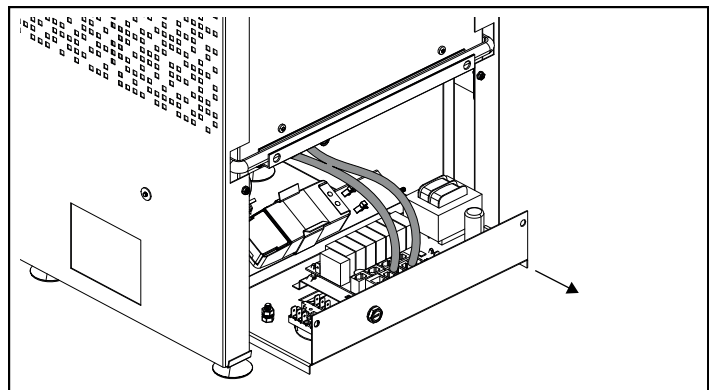
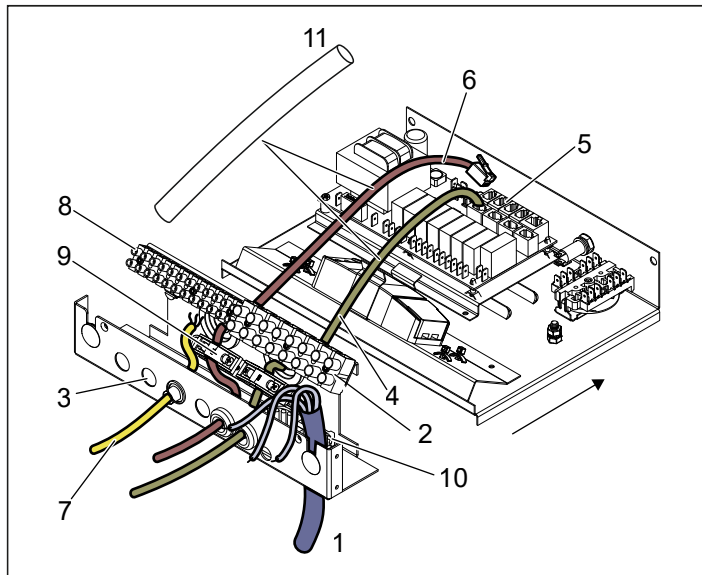
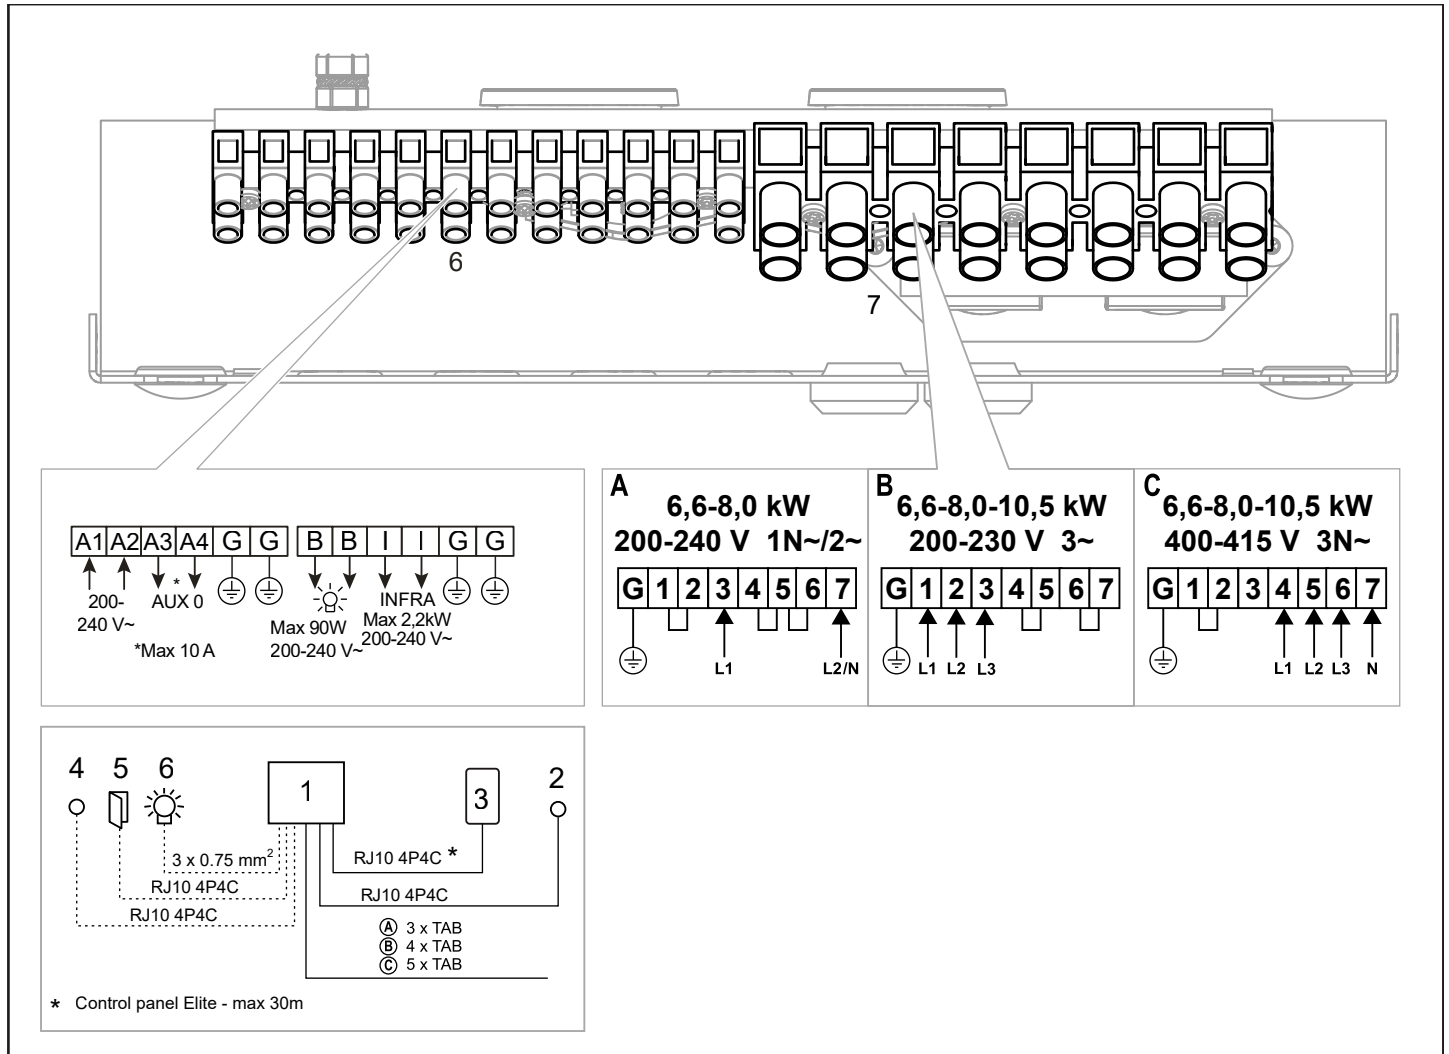
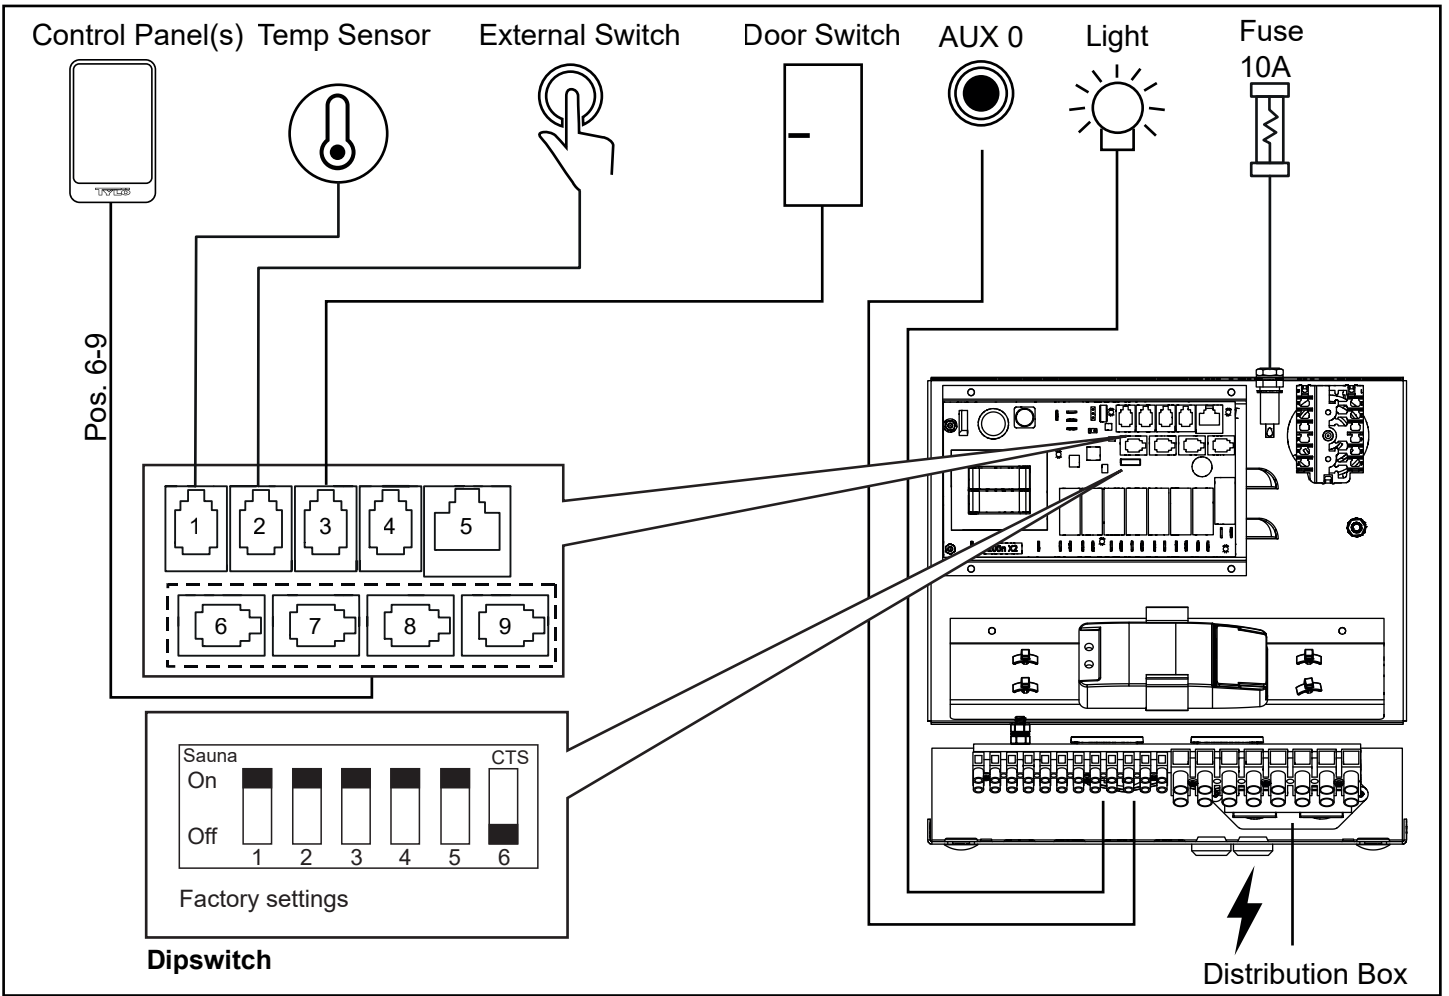

Fig 9: Pull out the drawer for easier access
Figure 10: Electrical Compartment
Figure 14: Wiring diagram
Figure 15. Schematic diagram of installation Crown Elite
3. Connect the power cable (see Figure 10) according to the wiring diagram (see Figure 14).
4. Run the cables for the control panel and the temperature sensor through the cable grommets (see Figure 10). Connect the control panel cable to one of the four RS485 contacts (positions 6-9) (see Figure 15).
5. Connect the sensor cable to the NTC contact on the circuit board (position 1) (see Figure 15). Open the drawer to stretch the cables (see Fig 9).
6. Connect the light cable (if relevant), see Figure 10, according to the wiring diagram Figure 14.
Contact Tylö Customer Service before connecting to voltages or numbers of phases that are not listed in the wiring diagram Figure 14.